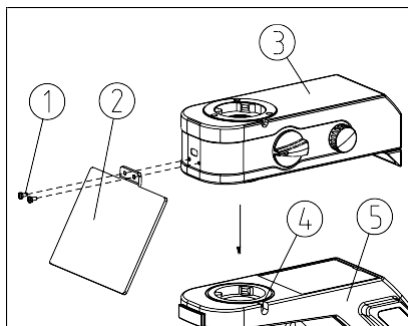

Fig. 26
(1) Fix the light shield ② on the LED fluorescence illuminator ③ with the screw ①. (See Fig. 26)
(2) Put the LED fluorescence illuminator ③ on the arm ⑤, and fix it with the lock screw ④ by the hexagon spanner.